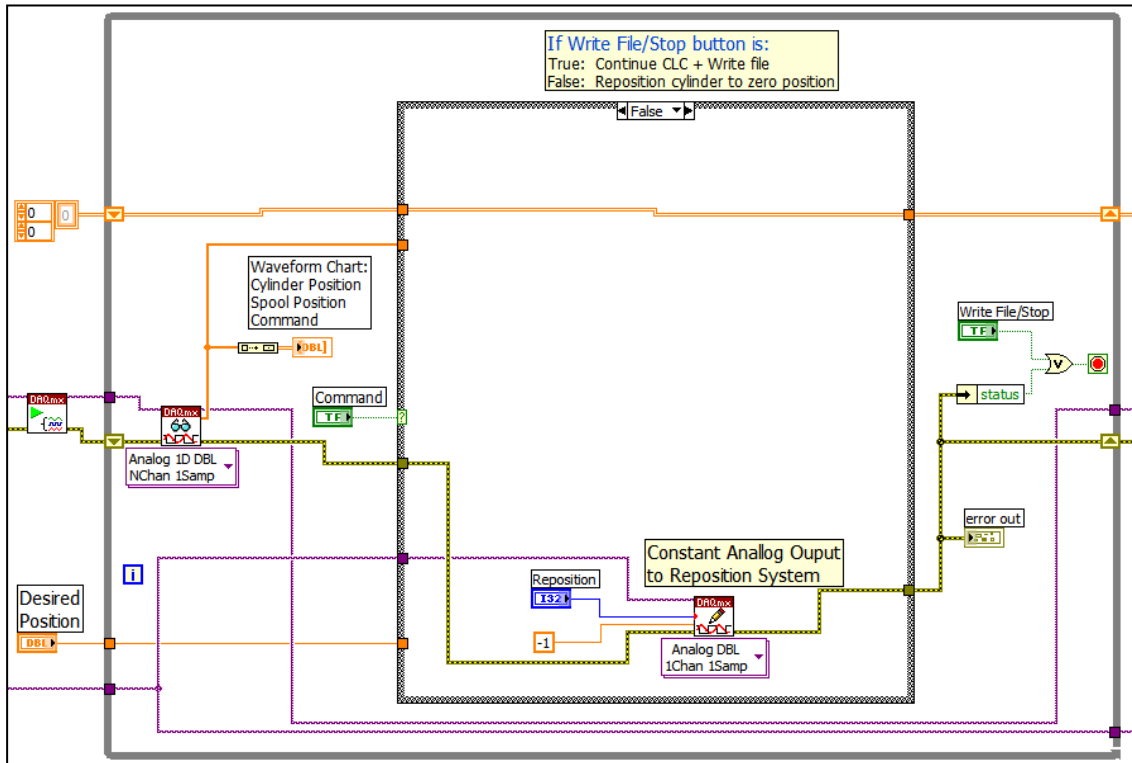

Fig. 4. The Control Loop with the Command Button **OFF**
- As execution enters this loop, the **Command** button should be **OFF**, so the program operates in **open-loop mode** by sending the **reposition voltage** to the analog output channel and data is collected and shown on the **Waveform Chart** on the front panel. The block diagram of this segment with the **Command** button **OFF** is shown in Fig 4.